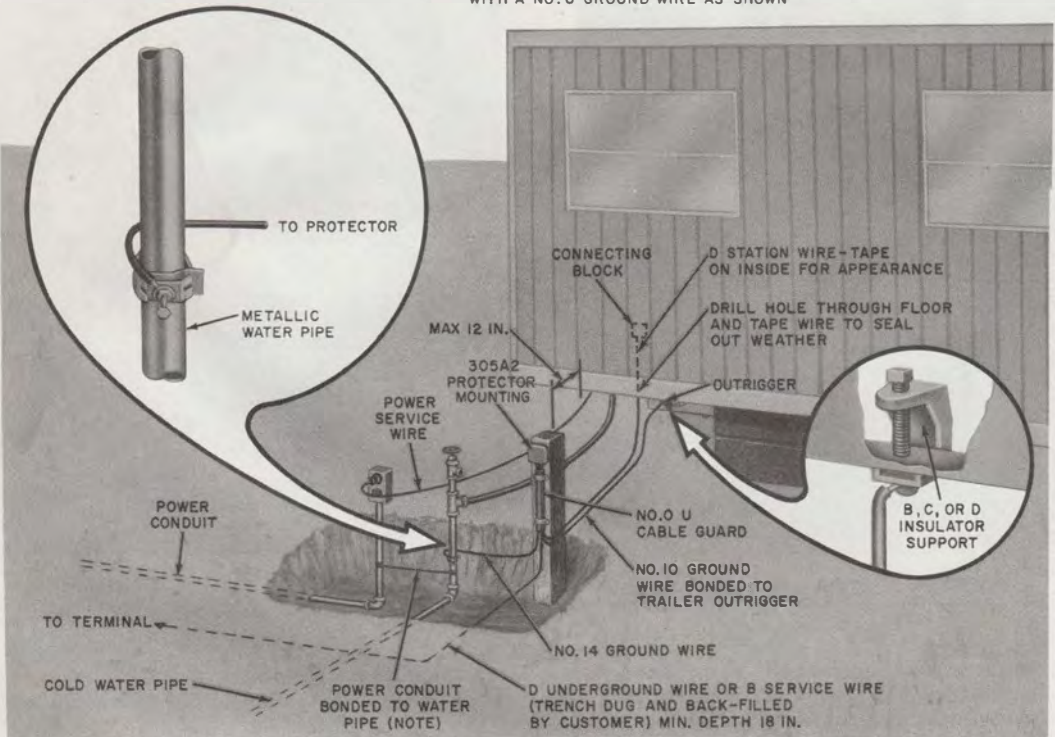
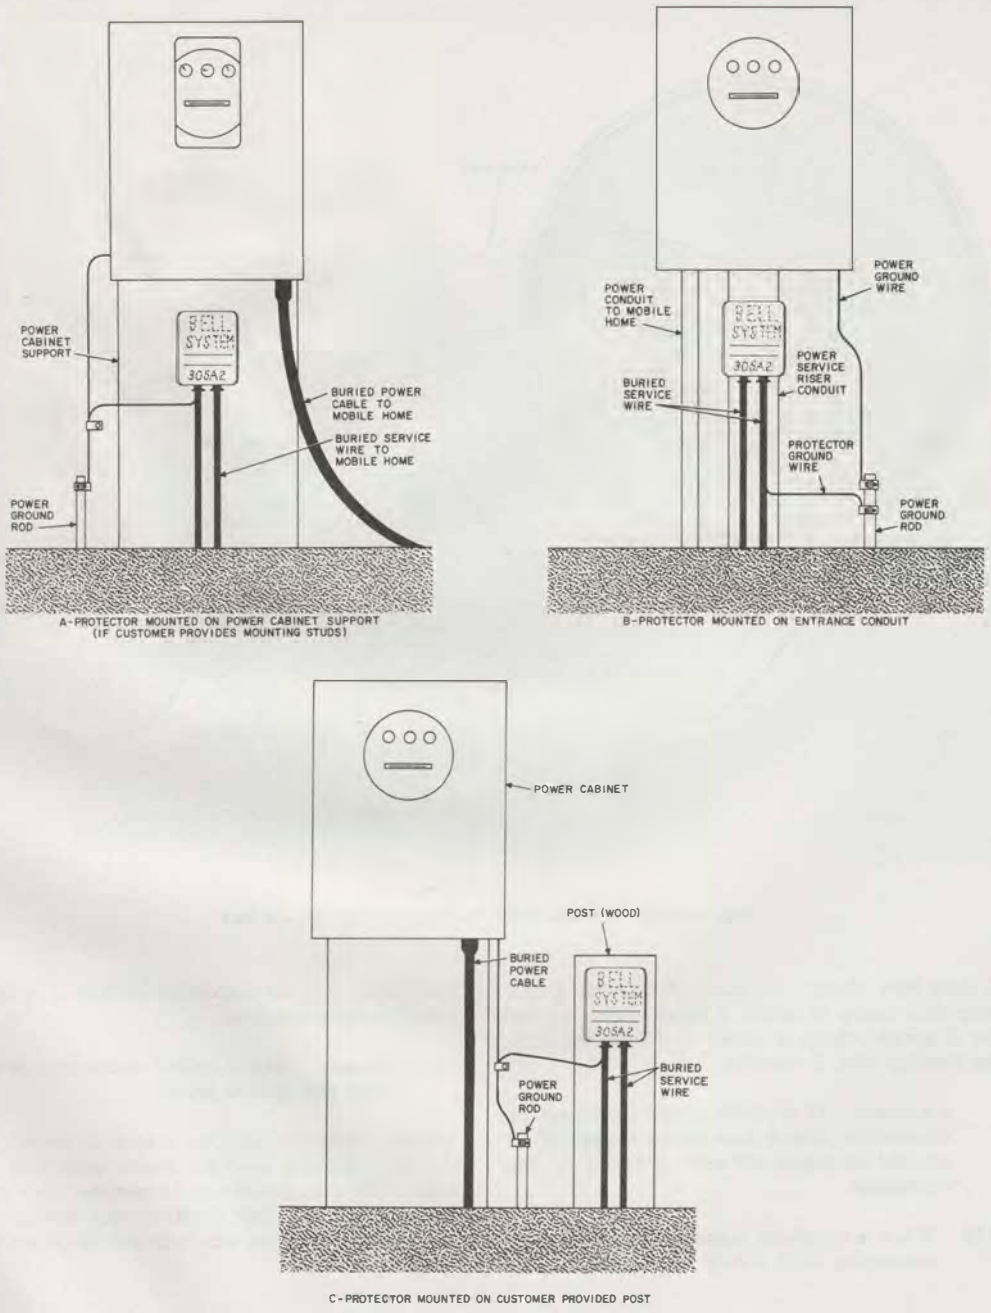

Fig. 3—Buried Service Protector Grounded To Water Pipe
Fig. 7—Typical Protector Mounting Installations
4.03 Refer to Table A for selection and installation of protector grounds. For a mobile home the best ground is usually the power ground system, since an acceptable water pipe ground usually does not exist. Connect the protector to a water pipe if it is serving as the power ground, to the power ground rod, power ground wire, or power service conduit. If the power is not multiground neutral (MGN), and is grounded to a ground rod, install a telephone ground rod and bond the two separate rods as described in 4.04. A typical installation of this type is shown in Fig. 3 and 4. If the power ground is not present or available, ground the protector to a driven ground rod or a metallic water pipe of which at least 10 feet is buried as shown in Fig. 5 and 6. Typical installations using the power ground are shown in Fig. 7. If power
4.08 Bonding should be completed before any installation work is started when the power is non-permanent (plug and cord). Use a suitable size B, C, or D insulator support to bond the mobile home chassis to the protector ground terminal post using No. 10 bare copper wire. Attach the insulator support to an outrigger on the structural member of the mobile home chassis (Fig. 3 through 6).